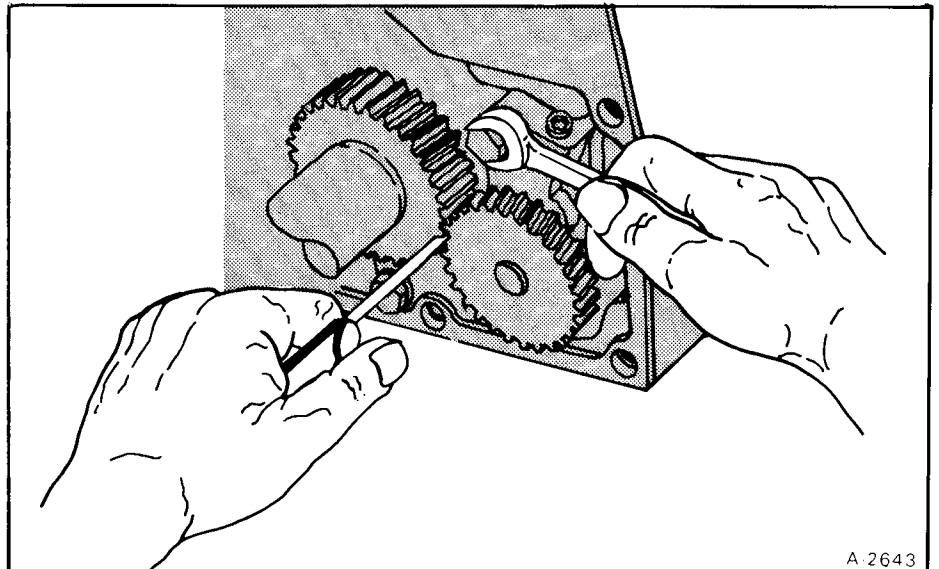

Fig. 7-16a Adjusting Oil Pump Gear With Feeler Gauge
- (1) After oil pump is installed, do not tighten the mounting bolts.
- (2) Use a .007" (0,177 mm) feeler gauge and adjust the clearance between the oil pump and crankshaft gear (Fig. 7-16a). Tighten the mounting bolts.